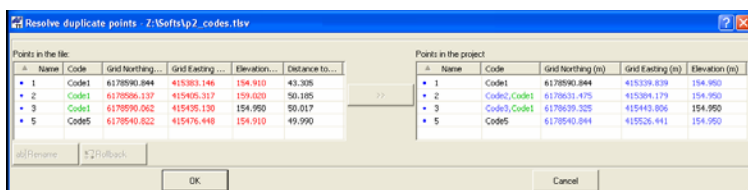

Figure 5-21. The Resolve Duplicate Points Dialog Box
*Resolve duplicate points* dialog box (Figure 5-21 on page 5-18) consists of two panes. The right pane contains a list of points with duplicate names in the project, and the left pane contains a list of duplicate points in the imported file/job (the name of the file is displayed in the window title).